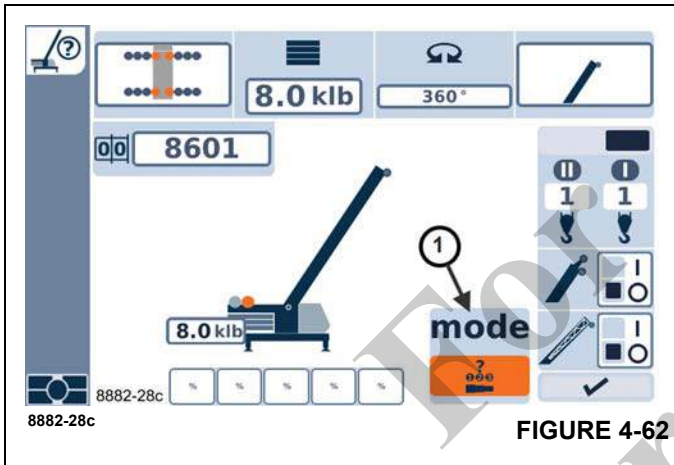

FIGURE 4-62
After the RCL has been initialized, and the rigging mode screen is re-entered, and the telescoping function has been enabled, and the boom is fully retracted and locked, then a Telescoping Mode Number may be selected (1), (Figure 4-62). Entering this option allows the up/down or jog dial to be used to select from an available list of these mode numbers. After this selection and using the check-mark again on the rigging screen, the telescoping function will commence for the requested telescoping status based on the mode number.